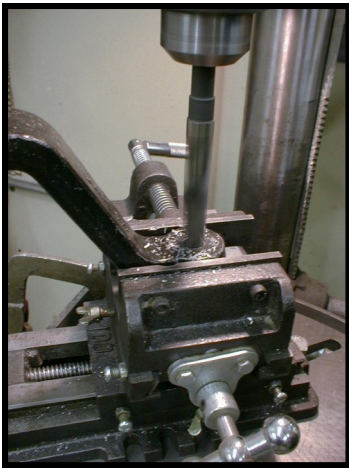

Figure 1
STEP 2: The pitman arm has a tapered hole that the drag link attached to. This hole must be drilled to 5/8". M.O.R.E.™ has found it best to remove it from the steering box (this requires a pitman arm puller). Place it in a drill press or milling machine for this step. See figure 1. This can be done with a hand power drill with the pitman arm on the vehicle, if you can drill the hole very accurately. You be the judge.